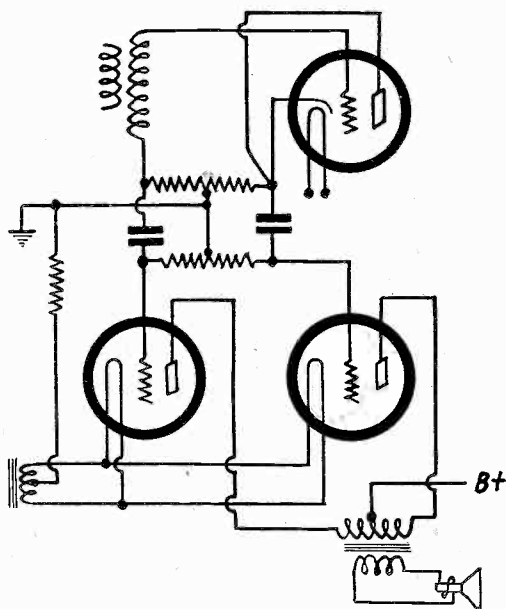
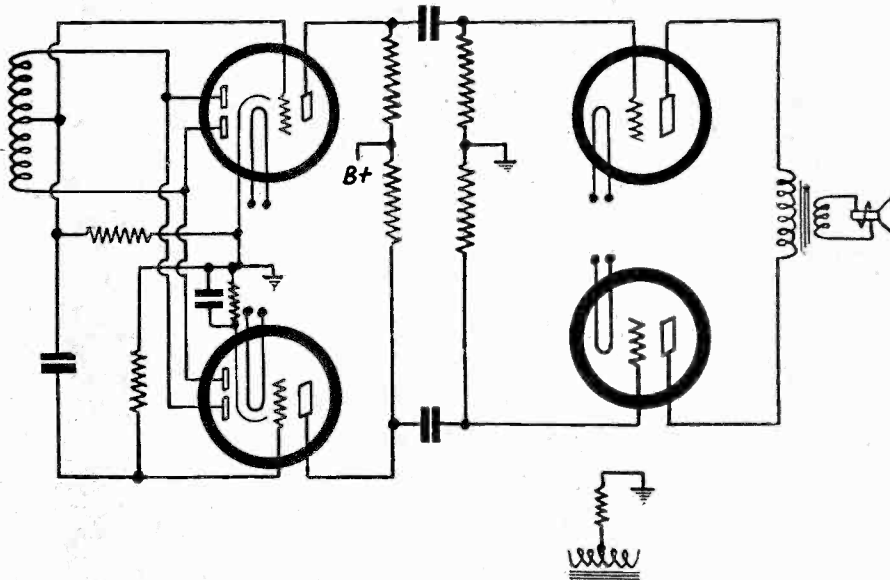

FIG. 1
FIG. 2
In Fig. 1 is a circuit that represents the
scheme, as in Fig. 2. Regarding the upper part of the circuit, it may be considered as single-sided audio after a diode detector, with the triode of the diode as first audio amplifier or driver, and the next tube as the output (45). We have shown that the cathode is positive to audio frequencies, therefore with grid of amplifier tied to left-hand extreme of the load resistor the bias on the tube is negative by the amount of the rectified voltage. That is, the bias is approximately equal to the signal voltage. The stronger the signal, the more negative the grid.
It will be noted that in general there seems no great need to worry about dynamic balance in Figs. 1 and 2, because the dynamic and static conditions are the same, and we do not have to equalize equality.
This would seem to be true all right of Fig. 1 when granting equalities of the push-pull tubes, the output transformer sections and the halves intended of the voltage load load resistor of the diode. But in Fig. 2 we can not agree that balance has been struck. In fact, we built the circuit and measured it dynamically and know that balance is absent. The reason is clear enough.
The two tables are above. Fig. 1 is next and Fig. 2 is at extreme right. Fig. 1 shows the operation characteristics of the 19 with a 30 driver, Fig. 2 with a 31 driver.